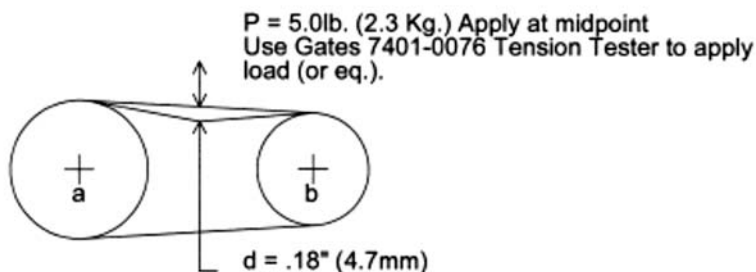

Figure 3: Belt Tension Inspection
- 2) Verify proper belt tension as shown in the illustration shown below. (See Figure 3)